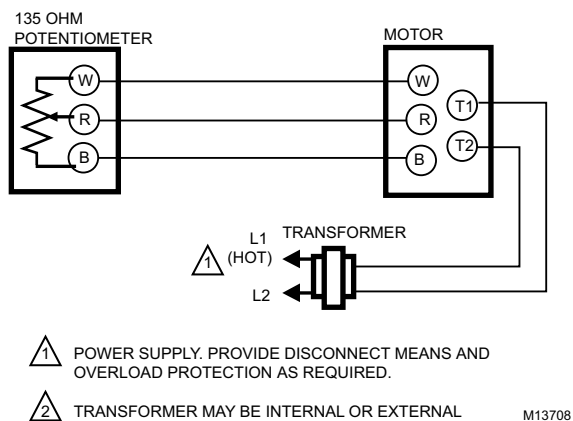

Fig. 6. Wiring for Potentiometer Control
3. Connect a remote potentiometer to the motor as shown in Fig. 6 (R-W-B).
3. Connect a potentiometer to the motor as shown in Fig. 6.